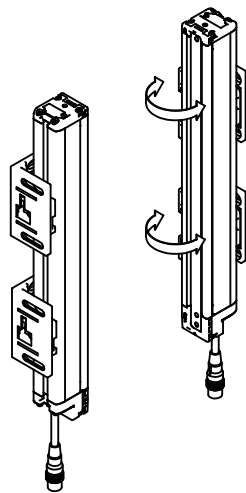
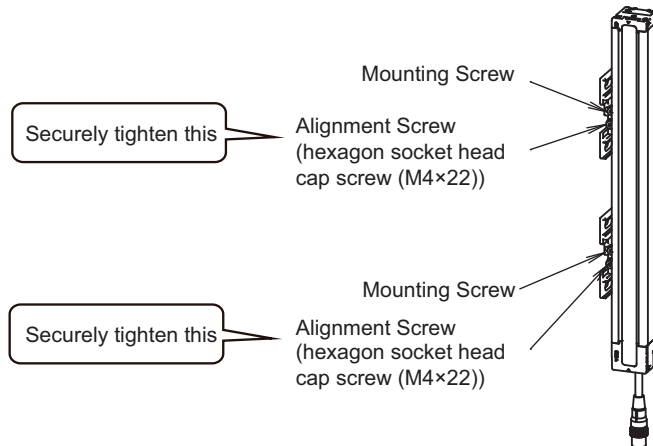

Fig. 4
Fig. 6
Move the emitter and receiver from side to side (Fig. 4) to align them to a center position where the Stable-state indicator (STB, green) of the receiver is illuminated while checking the state of the top and bottom beams with the Top-beam-state indicator (TOP, blue) and Bottom-beam-state indicator (BTM, blue) of the receiver. (Fig. 6)
- Securely tighten the Alignment Screws to fix the Free-Location Bracket to the F3SG-RR housing. The recommended torque to tighten the Alignment Screws is 3.0 N•m. (Fig. 6)